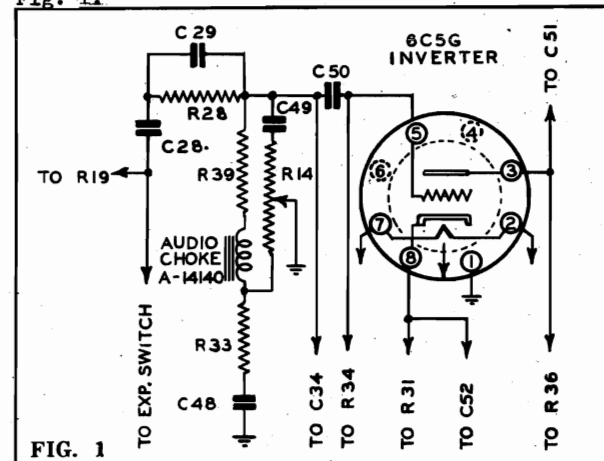

FIG. 1
(1) Change in Tone Control circuit as in Fig. 1.
(Change in circuit as in Fig. 1) VOLTAGE TABLE